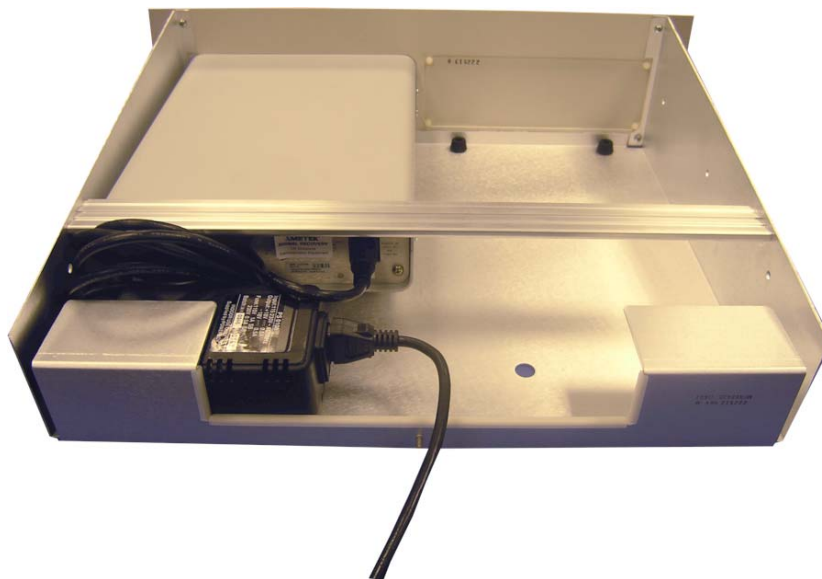

Figure 6, Fitting PS0108 Power Supplies
- h) The rack has provision for mounting two model PS0108 power supplies at the rear. These are fitted by placing them under the retaining plate, with their feet in the four holes - see figure 6.